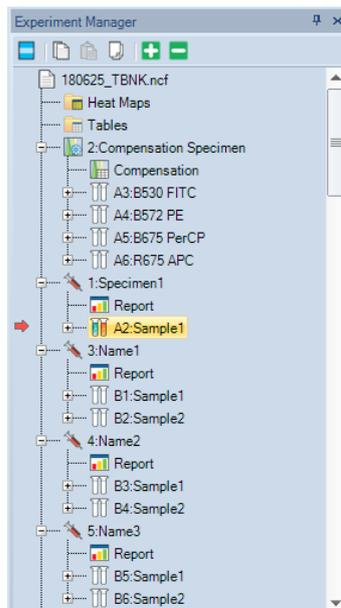

Figure 3-9 Experiment Manager Panel after Experiment Samples Created
- 7 Check the *Work List* to ensure the settings are correct, and click the *Apply Modifications* button  from the toolbar to save the changes made to the *Work List*. You will see the new samples automatically showing up in the *Experiment Manager* panel (Figure 3-9).
The *Experiment Manager* panel will be updated with the newly created samples. The *Experiment Manager* panel is shown in Figure 3-9.